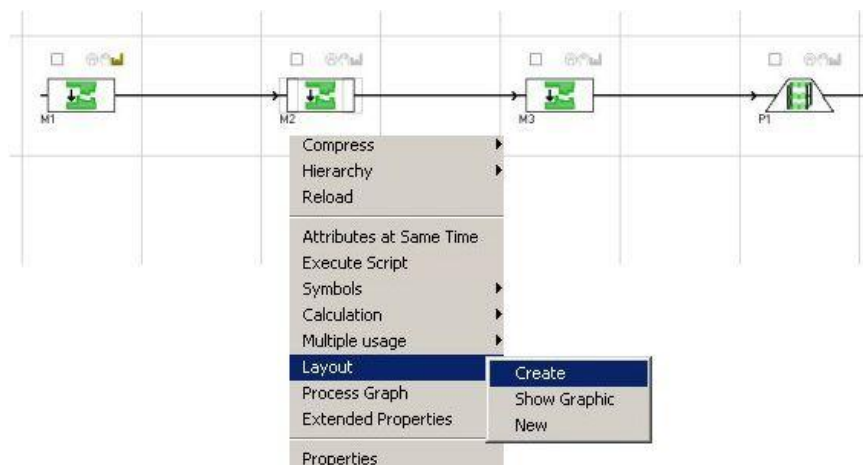

Figure 64: Start Create Layout via the Context Menu
- 1) In order to start the function **Create Layout**, click free space in the manufacturing concept. Then press the right mouse button and click **Create Layout** (Please refer to the Figure 64). The graphic icons are arranged if the message **A new layout was created** appears on your screen.
- 1) Click **Layout < New** in the context menu. *Please refer to the Figure 64.*